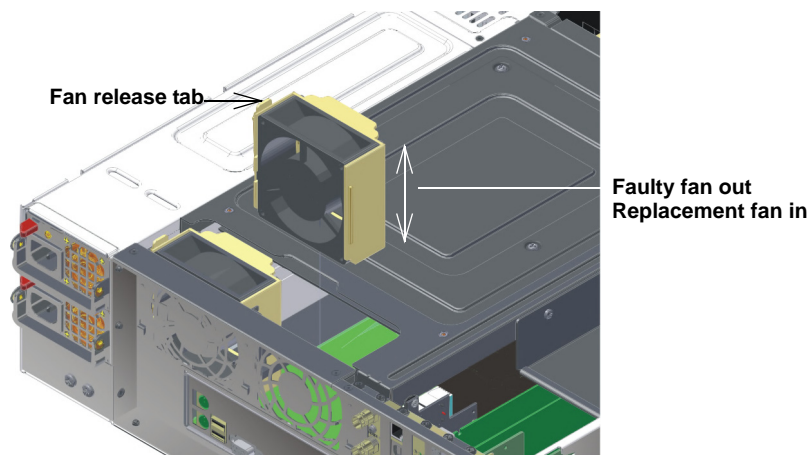

Figure 4-12 Replacing a DSS200 Rear System Fan
3. Slide the rear fan into the slot, as shown in Figure 4-12.